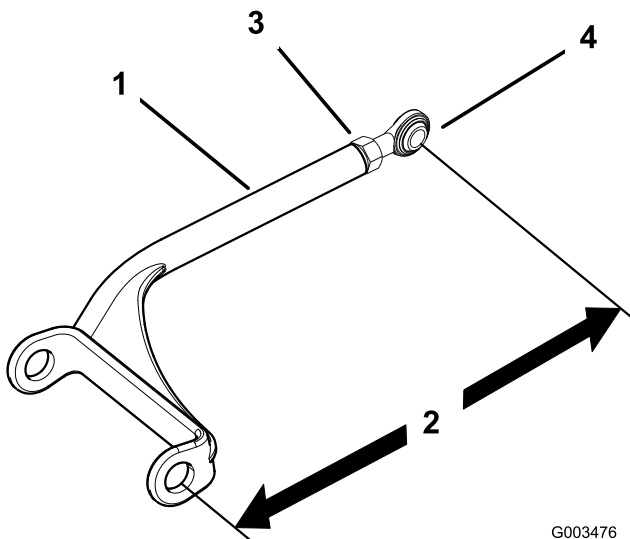

Figure 47
- Loosen the jam nut and rotate the ball joint counterclockwise, one turn at a time (Figure 47).
2. Adjust each side the same amount. Each push arm should have a length of 15-1/8 inch (384 mm) (Figure 47).